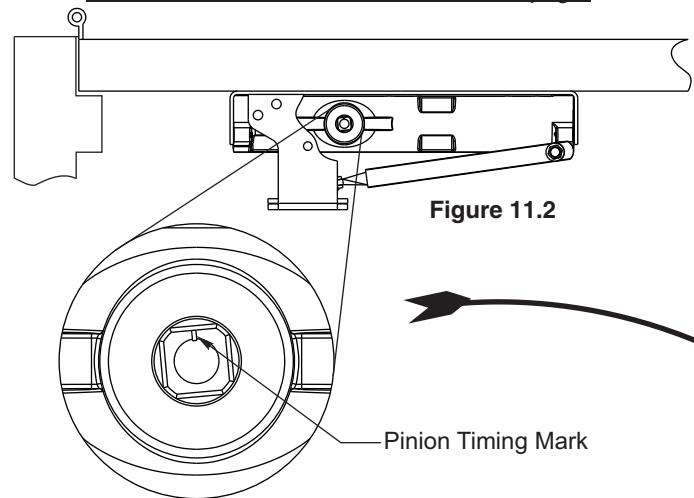
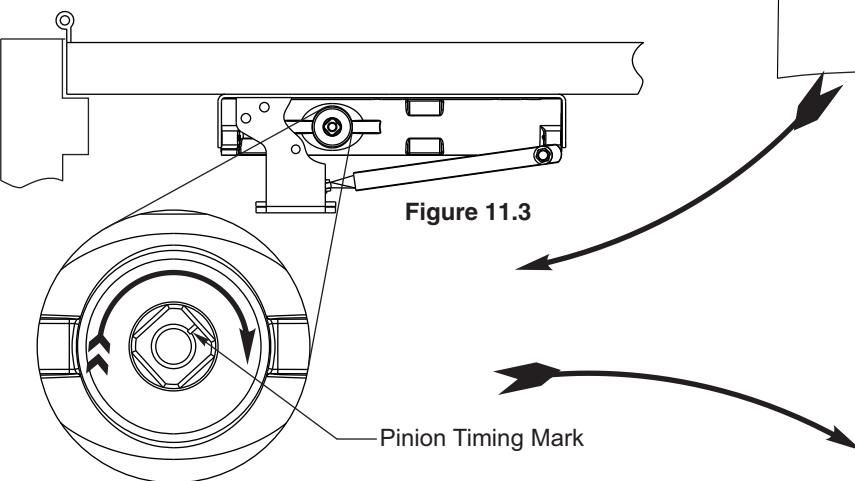
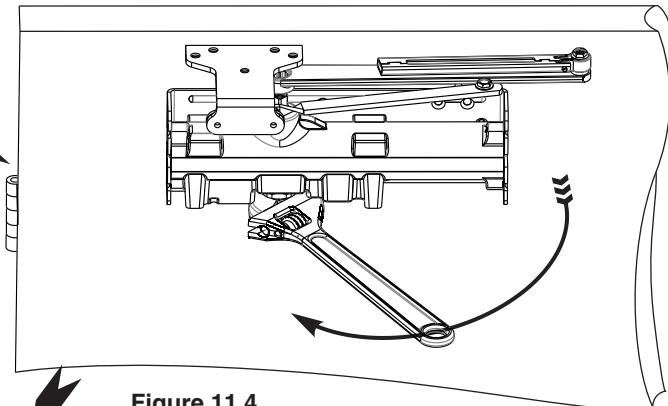
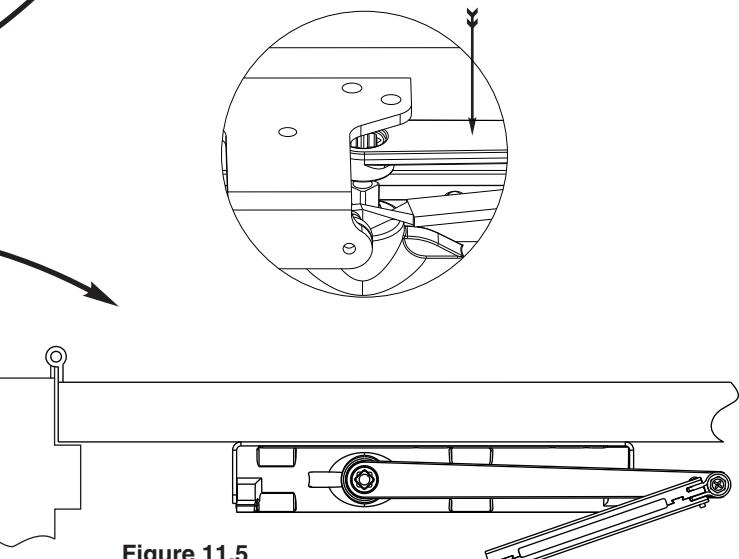

Figure 11.2
Figure 11.3
Figure 11.4
Figure 11.5
- See Figure 11.2 for Timing Mark. Placing a wrench on under side of pinion, rotate wrench approximately 45° toward hinge edge of door as shown (Figure 11.4) until Timing mark is oriented as shown in Figure 11.3.
- Immediately place arm on pinion (Figure 11.4) so that it is parallel to door face (Figure 11.5); secure in place with arm screw and washer assembly provided.